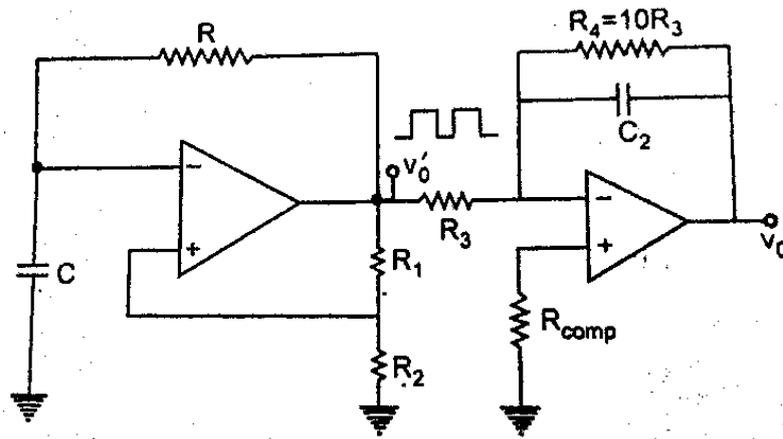

Fig. 3.36 Triangular Wave Generator
14. With diagram explain the following op- amp applications of triangular wave generation. (May-17, 18) (13)
- A triangular wave can be simply obtained by integrating a square wave as shown in Fig.3.36.